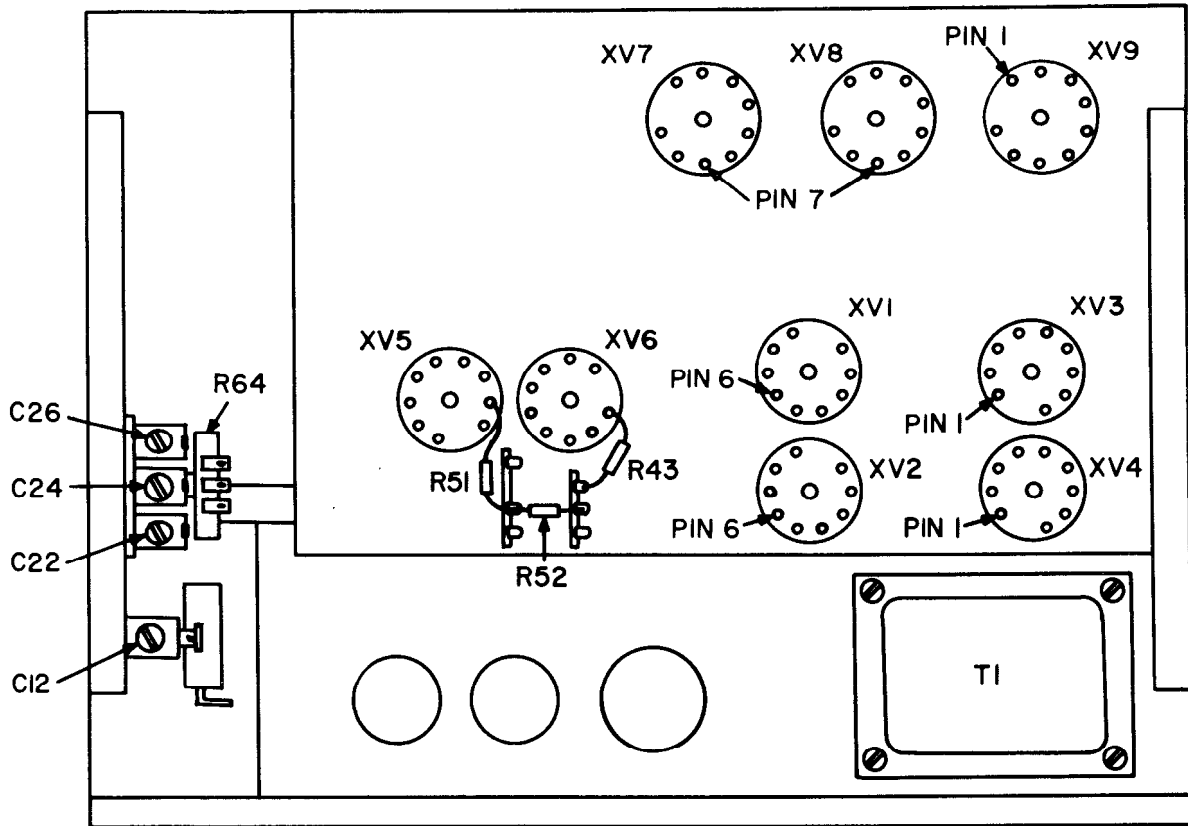
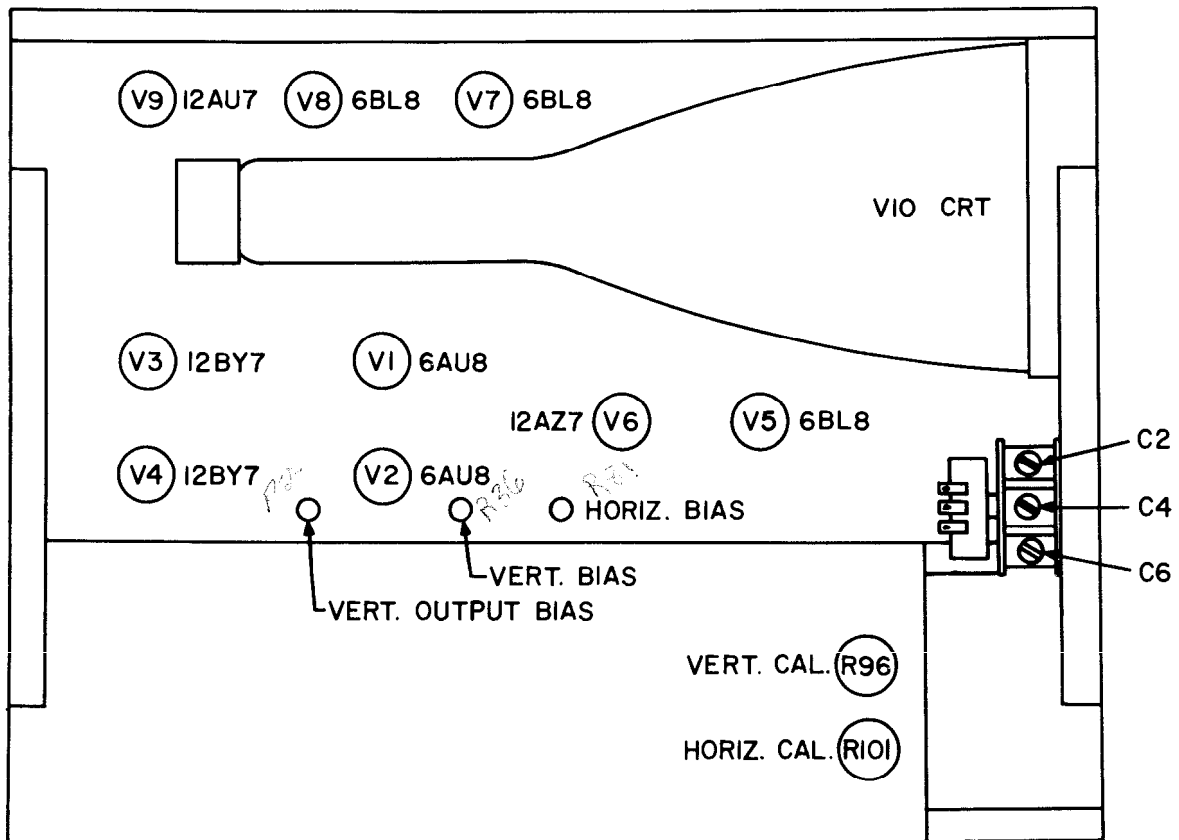
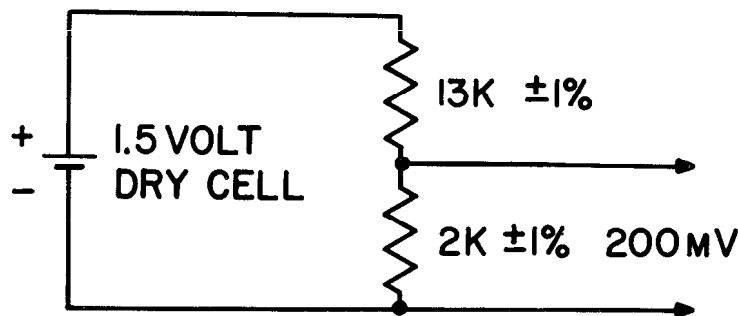

FIGURE 7
FIGURE 8
FIGURE 10
- b. Being very careful, connect a VTVM between ground (chassis) and pin 8 of either V1 or V2 (positive lead of VTVM). See Fig. 7. Adjust vertical bias input potentiometer R36 (Fig. 8) for a reading of 2.6 volts.
- b. Very carefully, connect the VTVM between ground (chassis) and pin 7 (Fig. 7) of either V7 or V8 (positive lead of VTVM). Adjust horizontal input bias potentiometer R81 (see Fig. 8) for a reading of 2.5 volts.
- a. Vertical channel stray capacitance shunting the resistive components in each attenuator network could result in frequency discrimination, were not each attenuator frequency compensated by a trimmer capacitor at each switch position. The trimmers for the vertical channel are shown in Fig. 8. The trimmers are: .5 - C6, 5 - C4, 50 - C2. The .05 range has no trimmer.
d. Set the VERT AMPLIFIER V/CM switch to the 5 position. Remove the end of the jumper from R64 and connect it to pin 1 of V9 (fig. 7). Rotate the GAIN control for minimum gain. If the trace has a "hook", adjust C4 (Fig. 8) for a straight line.
e. Now set the VERT AMPLIFIER V/CM switch to the 50 position and adjust the GAIN control for almost maximum. Adjust C2 (Fig. 8) to make a straight trace. Remove the jumper.
f. Horizontal Channel -Connect a 10-megohm resistor between pin 2 of V6 (Fig. 7) and the end of R43 (68K, 1-watt) that is not connected to pin 1 of V6.
g. Connect a jumper from the junction of R51 and R52 (connected in the cathode circuit of V5B), and shown in Fig. 7 to the HORIZ AMPLIFIER INPUT jack J2. Set both AC-DC switch at AC.
j. With HORIZ AMPLIFIER V/CM at .5, and GAIN at maximum, adjust C26 (see Fig. 7) until the "hook" disappears, and the trace is a straight line.
a. The calibration voltage is adjusted by means of R96 (see Fig. 8 for location). Before doing this, make sure that you have performed the DC balance tests discussed in 4-3 and 4-4 for both channels.
- g. Adjust R96 (Fig. 8) until the vertical line is 4 cm (4 major divisions) high. This completes the calibration voltage adjustment for a basic sensitivity of 50 mV/cm. Although the method calibration given here is convenient, it does not yield the maximum possible accuracy because the voltage divider is at the .5 position, which might introduce a possible 5% error (because of the resistors in the attenuator network). A more accurate calibration technique is to use an accurate source of 200 mV to do this calibration. A suggested source for obtaining the required 200 mV is shown in Fig. 10.
- h. Adjust R101 (Fig. 8) until the peak-to-peak deflection of the trace is 10 cm (10 major divisions). This completes the horizontal channel calibration for a basic sensitivity of 50 mV/cm.
- f. Adjust the VERT AMPLIFIER V/CM and GAIN controls to obtain a 1/2 to 3/4 screen height series of pulses. Without touching the SWEEP RANGE VERN control, adjust C12 (Fig. 7) until a stationary pattern of two complete cycles are displayed. This indicates an exact 7875 Hz sweep.